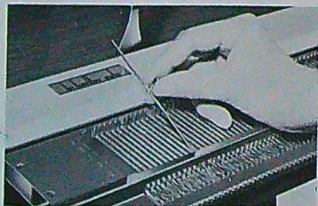

Fig. 4
- 4) Grasp the shank end and draw it out backwards. See Fig. 4